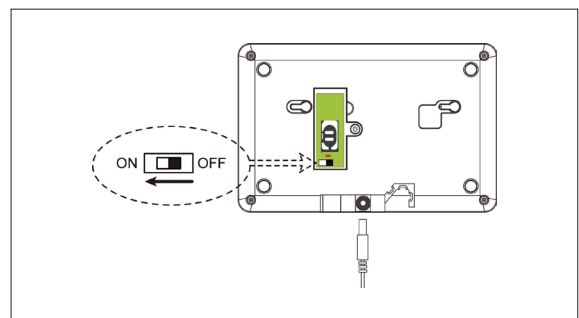

Figure 3
3. Connect the power adaptor to the control panel and slide the battery switch to ON position. Replace the SIM-card and battery compartment cover. Figure 3.